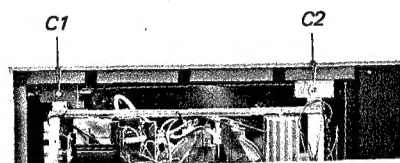

Fig. 2-4.
2. Remove the two screws labeled C1 ~ C2 in Fig. 2-4.